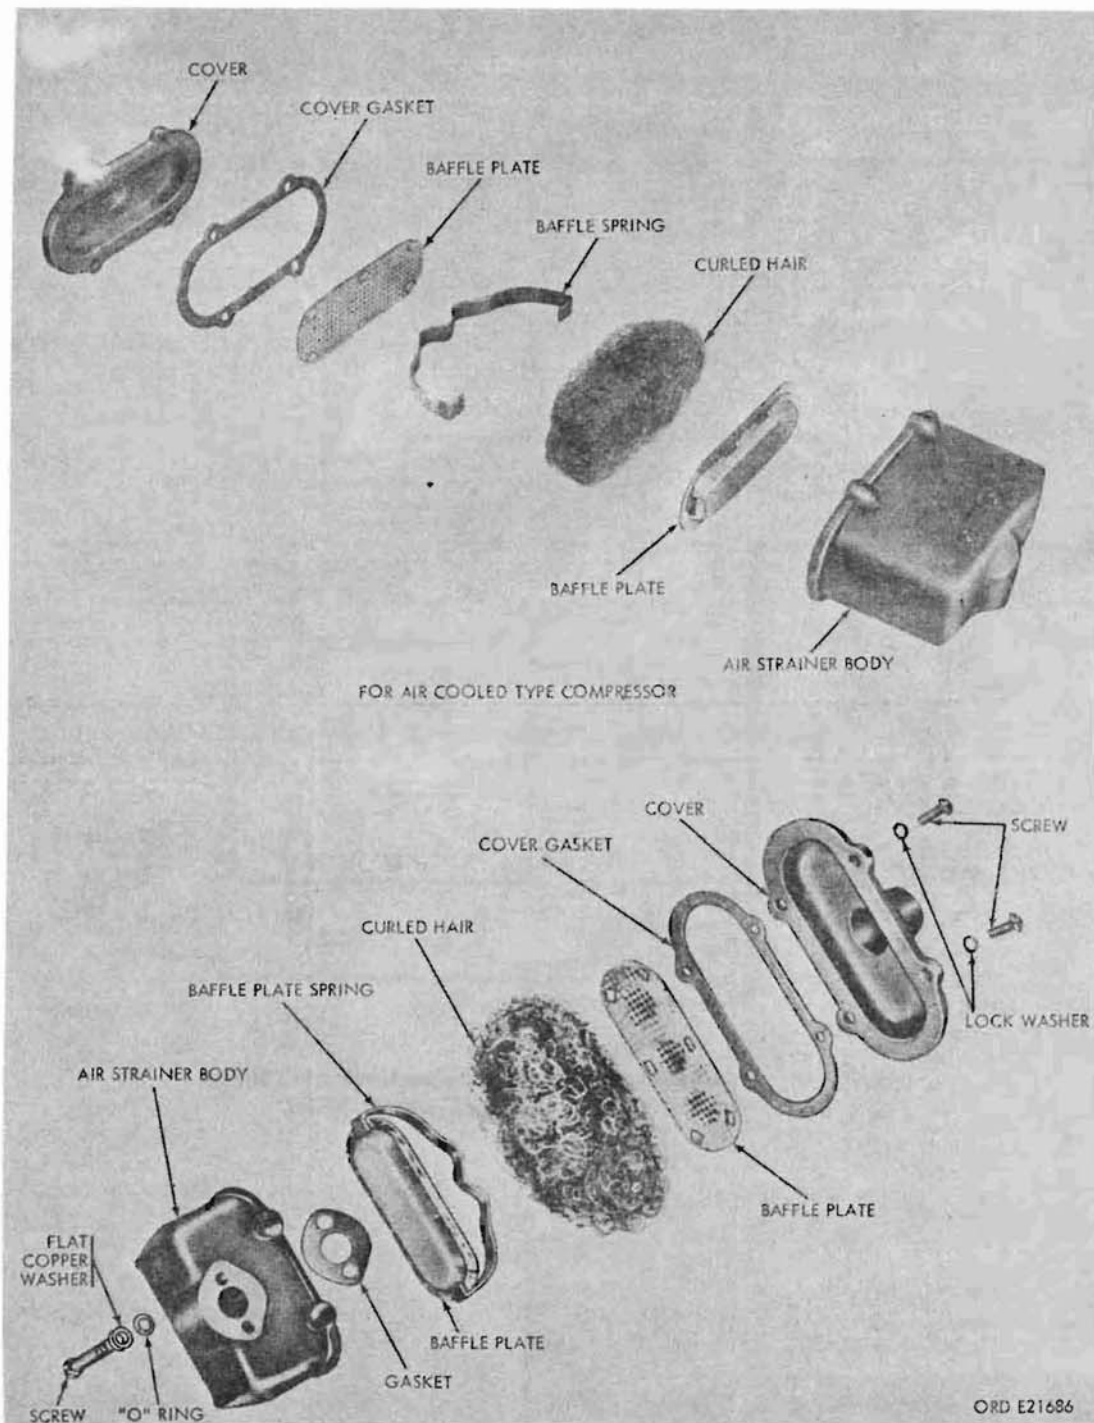

Figure 244. Compressor air strainer - exploded view
- (2) Remove screws holding cover (fig. 244) to strainer body, and remove cover and gasket. Discard gasket.
- (3) Lift out baffle plate, curled hair, spring, and baffle plate.